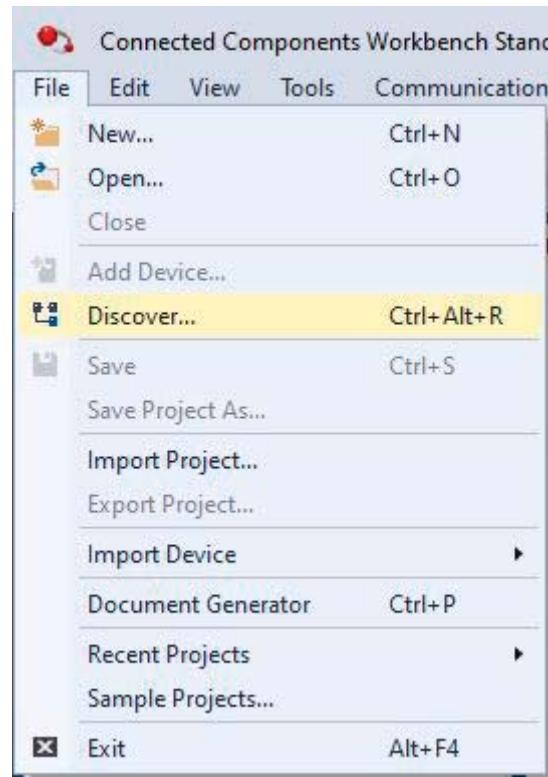

Figure 1-19. CCW File Tab
- C. Select the File tab similar to that in figure 1-19.